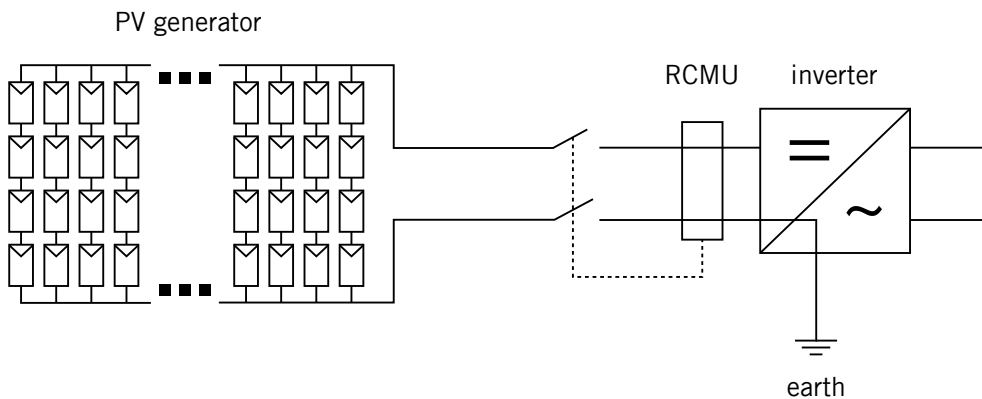

Figure 10: Separation of generator poles.
- **Separation of generator poles (Fig. 10):** If the ground connection is located inside the inverter (grounding kit), it is necessary to separate the generator connections with the aid of DC contactors. This form of ground fault monitoring can be used generally for all electrically separated systems, however, it is economically practical only when central inverters are used. Good grounding is also possible here when the equalizing currents to ground are monitored by a suitable circuit and the leakage current are limited (less than 30 mA). In some countries it is necessary to separate the inverter from the grid on the AC side in the event of a short-circuit to ground. This can also be realized with an RCMU.